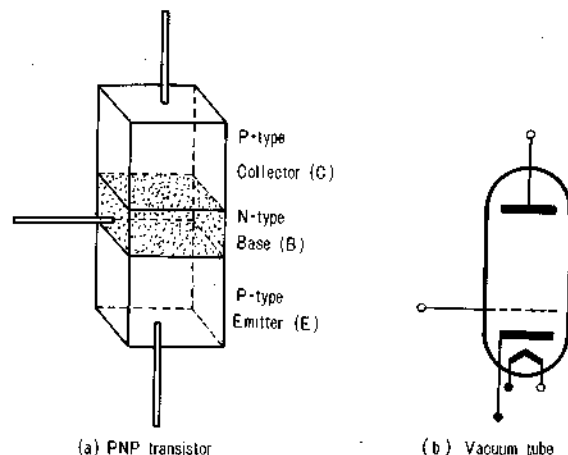

FIGURE 2. Principle and Construction of Transistors
Shown in Fig. 2 is a model of a PNP transistor. It comprises an N-type semiconductor sandwiched between two P-type semiconductors. The bottom section is called a P-type emitter (E), the intermediate section an N-type base (B), and the top section a P-type collector (C). The emitter corresponds to the cathode, the base to the grid, and the collector to the plate of a triode, respectively.